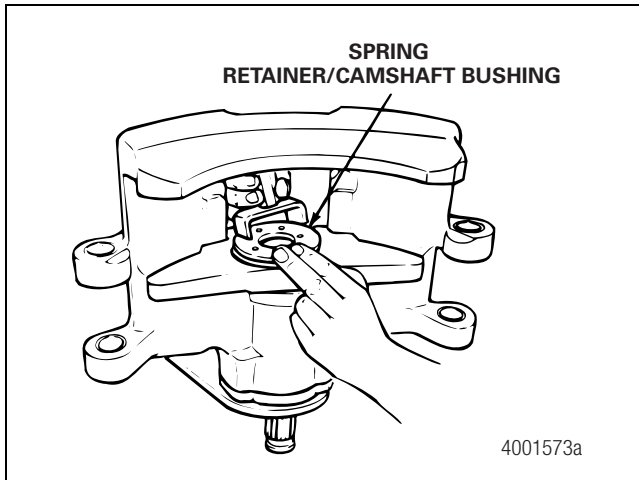

Figure 5.19
12. Hold the spring retainer and camshaft bushing assembly over the return spring. Install the tool between the caliper legs and directly over the retainer and bushing assembly. Figure 5.19.